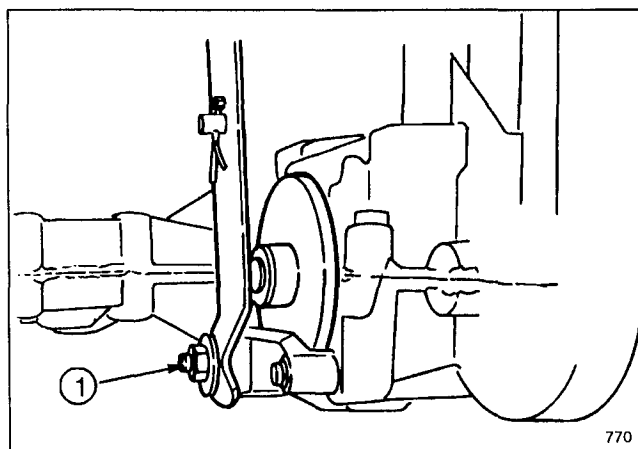

Figure 33
Adjust brake pucks if the parking brake does not hold or braking power is not sufficient when brake pedal is depressed. The brake is located on the left side of the transaxle (Fig. 33).
2. Tighten locknut approximately 1/4 turn clockwise (Fig. 33).